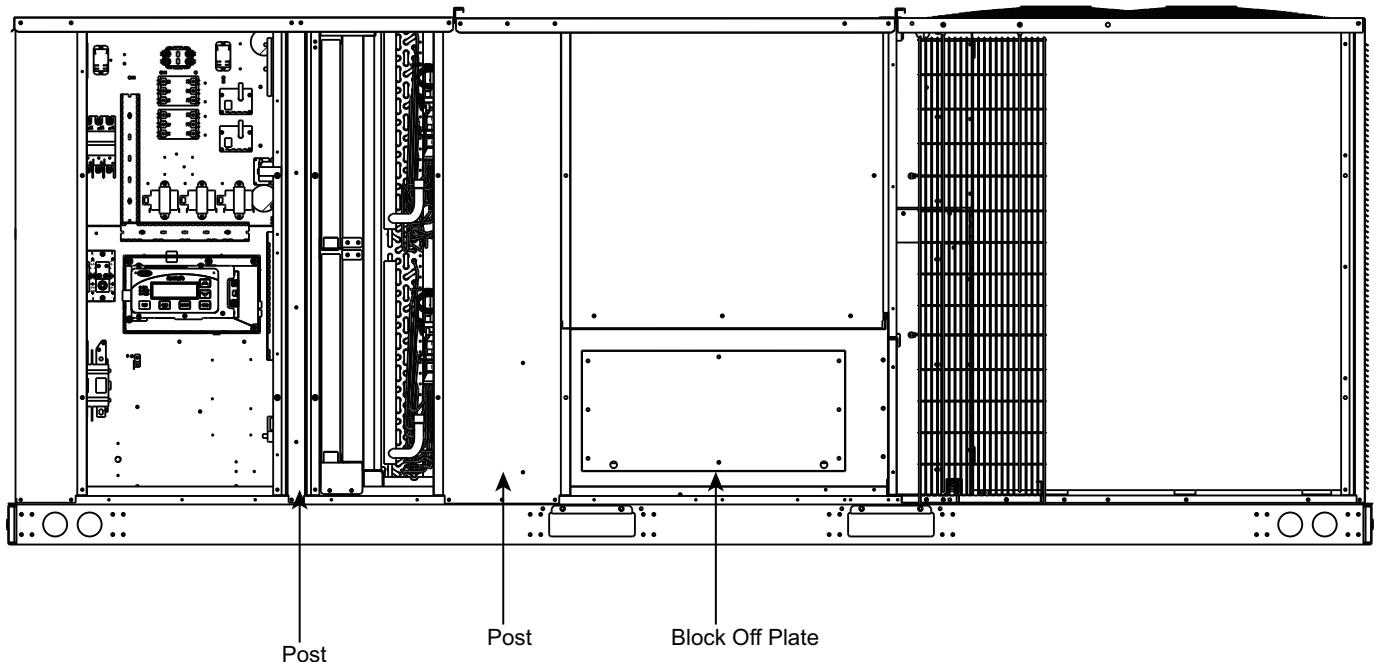

Fig. 41 — Block-Off Plate and Post Locations
3. Remove the block-off plate and save screws. Remove post adjacent to control box and post located between filter access and blower access. (See Fig. 41.)